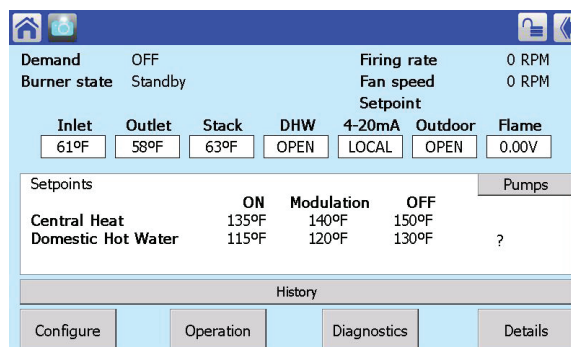

Fig. 53 – Status Summary Screen
2. The system will present the Status Summary screen for that controller. See Fig. 53.